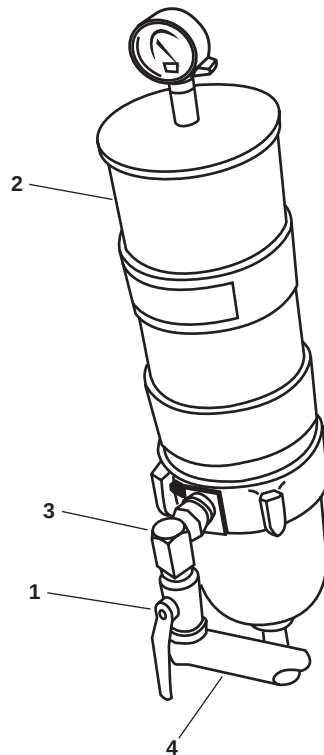

Figure 1. Typical Threaded Ball Valve
1. Place a suitable drain pan under the ball valve (figure 1, item 1) and the fuel oil filter/water separator assembly (figure 1, item 2).
2. Unscrew the swivel connector (figure 1, item 3) from the fuel oil filter/water separator assembly (figure 1, item 2).
3. Unscrew the ball valve (figure 1, item 1) from the fuel manifold (figure 1, item 4).
4. Cap the fuel manifold (figure 1, item 4) opening to prevent contamination of the fuel system.
1. Clean the male threads of the fuel manifold (figure 1, item 4) connector using dry cleaning solvent and a wire brush.
2. Clean the applicable male threads of the swivel connector (figure 1, item 3) using dry cleaning solvent and a wire brush.
3. Clean the female threads of ball valve (figure 1, item 1) using dry cleaning solvent and a wire brush.
4. Apply antiseizing tape to the male threads of the fuel manifold (figure 1, item 4).
5. Install the ball valve (figure 1, item 1) onto the fuel manifold (figure 1, item 4).
6. Install the swivel connector (figure 1, item 3) into the ball valve (figure 1, item 1).